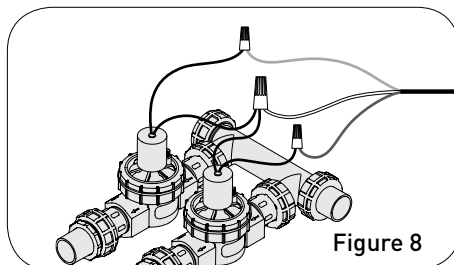

Figure 8
6. Take the second wire from each valve and the white common wire from the timer and twist them into the wire nut (Figure 8)